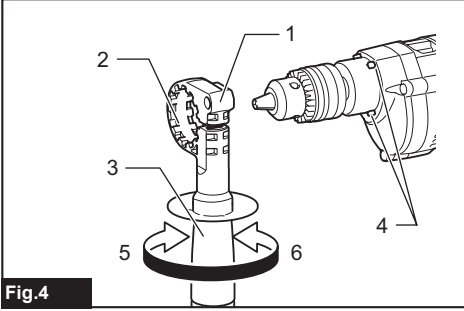

Fig.4
► **Fig.4:** 1. Grip base 2. Teeth 3. Side grip (auxiliary handle) 4. Protrusion 5. Loosen 6. Tighten